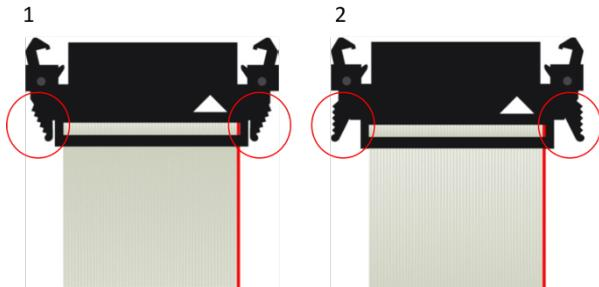

Figure 4: Plugs on the BrainAmp connection cables:
- a. Ensure that the clamps are open before you insert the plug (see Figure 4 part 1). As soon as you push the plug into the socket, the clamps automatically engage to prevent the plug from becoming disconnected inadvertently, e.g. if the cable is pulled.
- b. Always ensure that the plug is pushed home fully; the clamps must be engaged and point outwards (see Figure 4 part 2).